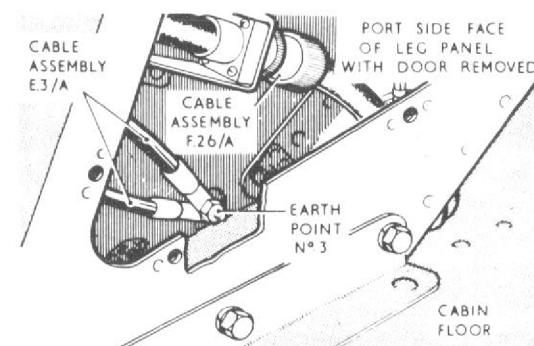

Fig.6 Earth point number 3
- (1) Render the aircraft electrically safe, as described in Group A.1.
- (2) Disconnect the Bowden cable from the rudder bar release lever at the top of the leg panel and stow it away from the panel.
- (3) Disconnect cable assembly E3/A from earth point number 3, obtaining access via the door in the port side of the leg panel (fig. 6).
- (4) Disconnect cable assemblies F.5, F.6, F.26A and F.64 from the leg panel. Seal off the plugs and sockets with approved caps and covers and stow assemblies away from the panel.
- (5) Release the leg panel from the mountings by removing the bolts from around the bottom forward and side faces of the panel. Remove the leg panel from the cabin, complete with cable assembly E3/A.